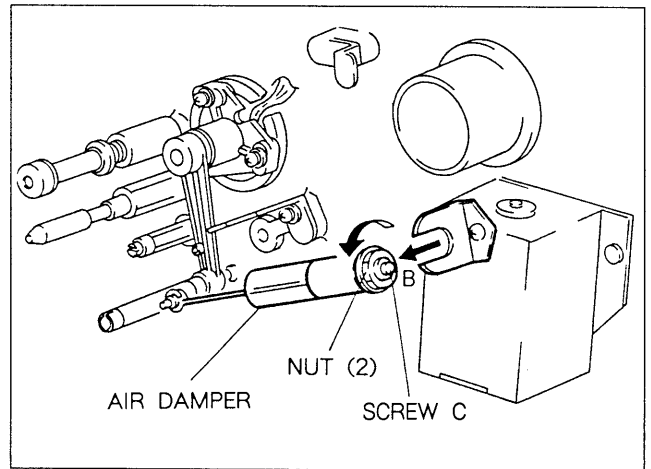

Fig. 9-2-3. Air Damper Replacement (2)
(3) Loosen the nut (2) and remove the air damper in the arrow B direction as shown in Fig. 9-2-3.